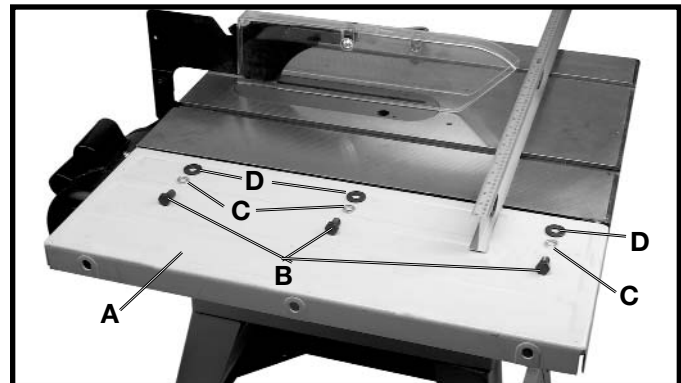

Fig. 39
1. Assemble extension wing (A) Fig. 39, to the saw table. Align the three holes in the extension wing with the three holes in the side of the saw table. Place a 7/16" lockwasher (C) Fig. 39, onto a 7/16-20x3/4" hex head screw (B), place a 7/16" flat washer (D) onto the hex head screw. Insert the screw through the hole in the extension wing and thread the screw into the tapped hole in the side of the saw table. Repeat this process for the two remaining holes in the extension wing and the saw table.
2. With a straight edge (E) Fig. 39, make certain the extension wing (A) is level with the saw table before tightening three screws (B).